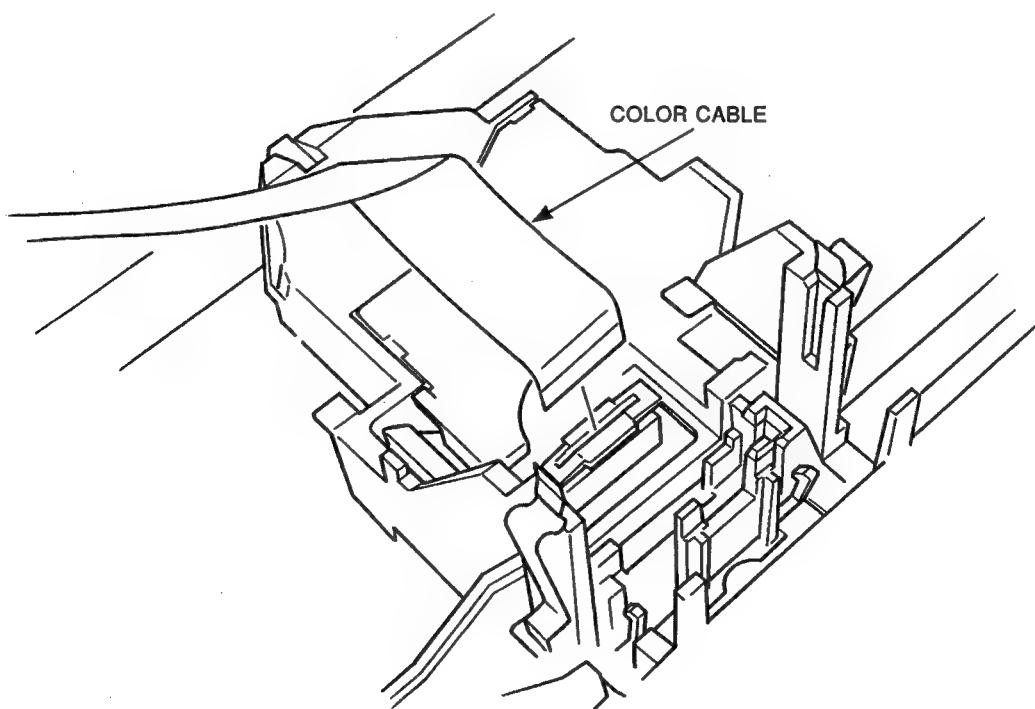

Figure 3-12 Color Cable Removal
7. Pull up both ends of the color cable connector lock and remove the color cable from the unlocked connector. (see Figure 3-12).